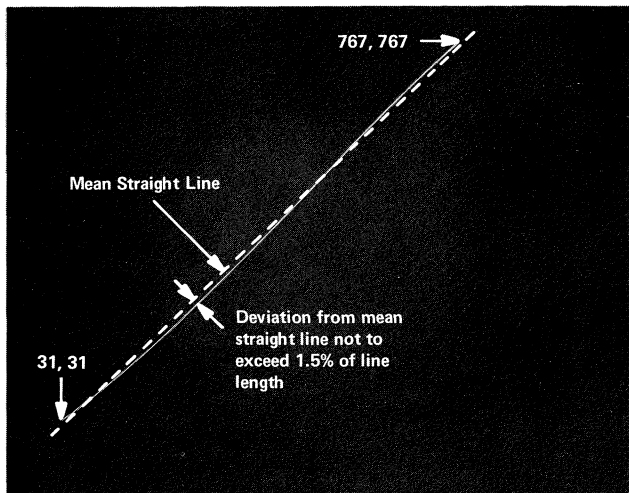

Fig. 4-12. Vector Dynamic Geometry Error.
d. CHECK—Deviation from a mean straight line should not exceed 1.5% of the line length. See Fig. 4-12. [If the gain were adjusted in accordance with this procedure, the line length should be approximately 19.1 cm (7.52 inches), and deviation from a mean straight line should not exceed approximately 3 mm (actually 2.865 mm) or 1/8 inch at any point.]